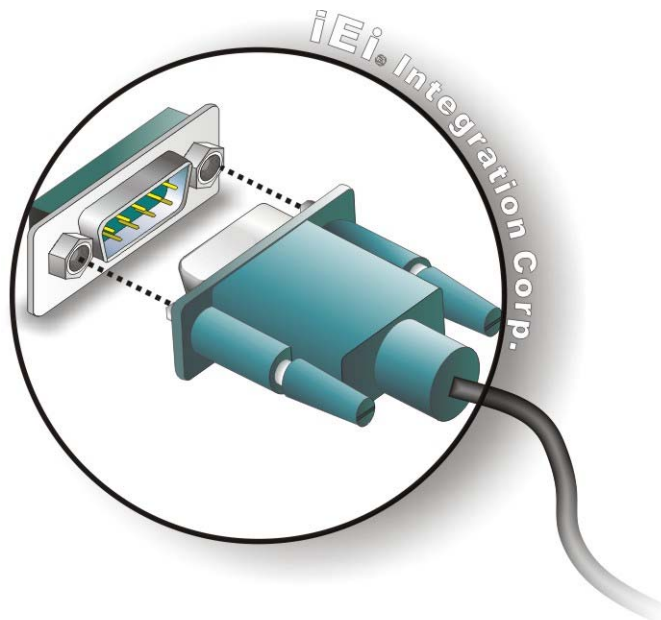

Figure 3-30: RS-422/485 Serial Device Connector
Step 2: Insert the serial connector. Insert the DB-9 connector of a serial device into the DB-9 connector on the external peripheral interface. See **Figure 3-30**.